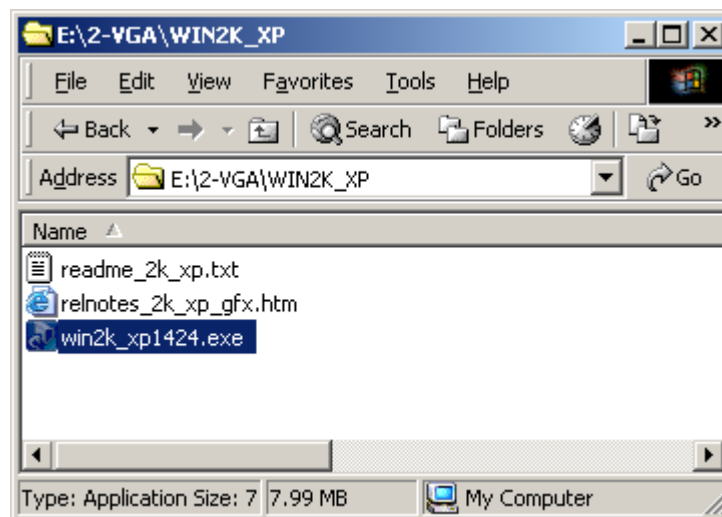

Figure 7-9: VGA Driver
Step 5: A new window appears (**Figure 7-9**).